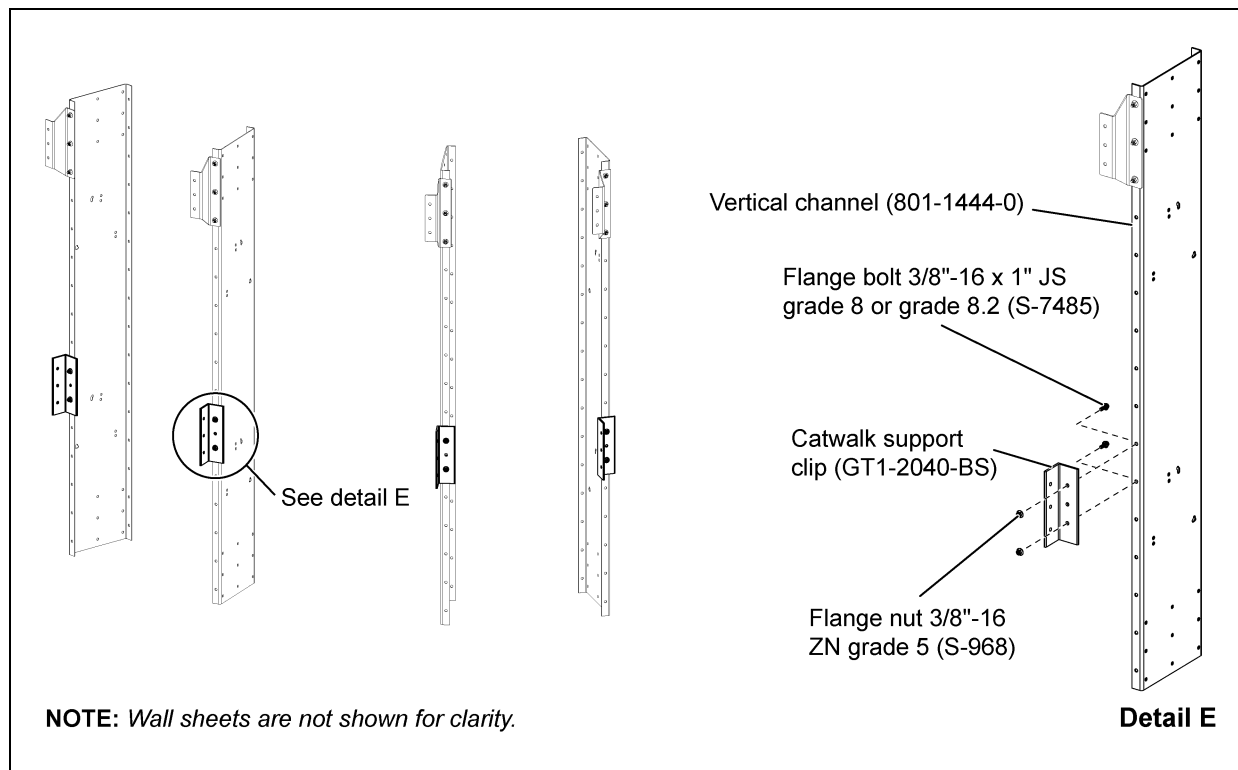

**Figure 6G** Offset Catwalk Support Clip Installation
1. Install catwalk support clips (GT1-2040-BS) to vertical channels (801-1444-0). Support clip can be installed on each vertical channel as the wall sheets are installed using 3/8"-16 x 1" JS grade 8 or grade 8.2 bolts (S-7485) and 3/8"-16 ZN grade 5 nuts (S-968). *(See Figure 6G below and Figure 6I on Page 52.)*